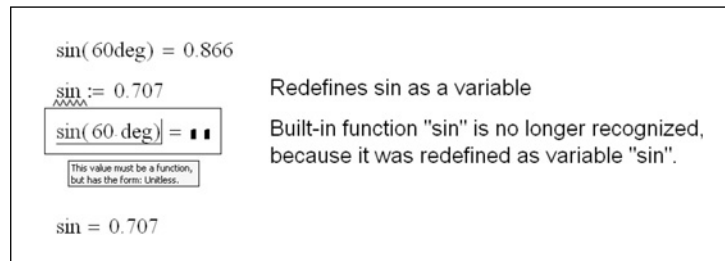

Figure 3.18 Be careful not to overwrite built-in functions
- Be careful not to redefine a built-in function. See Figure 3.18.